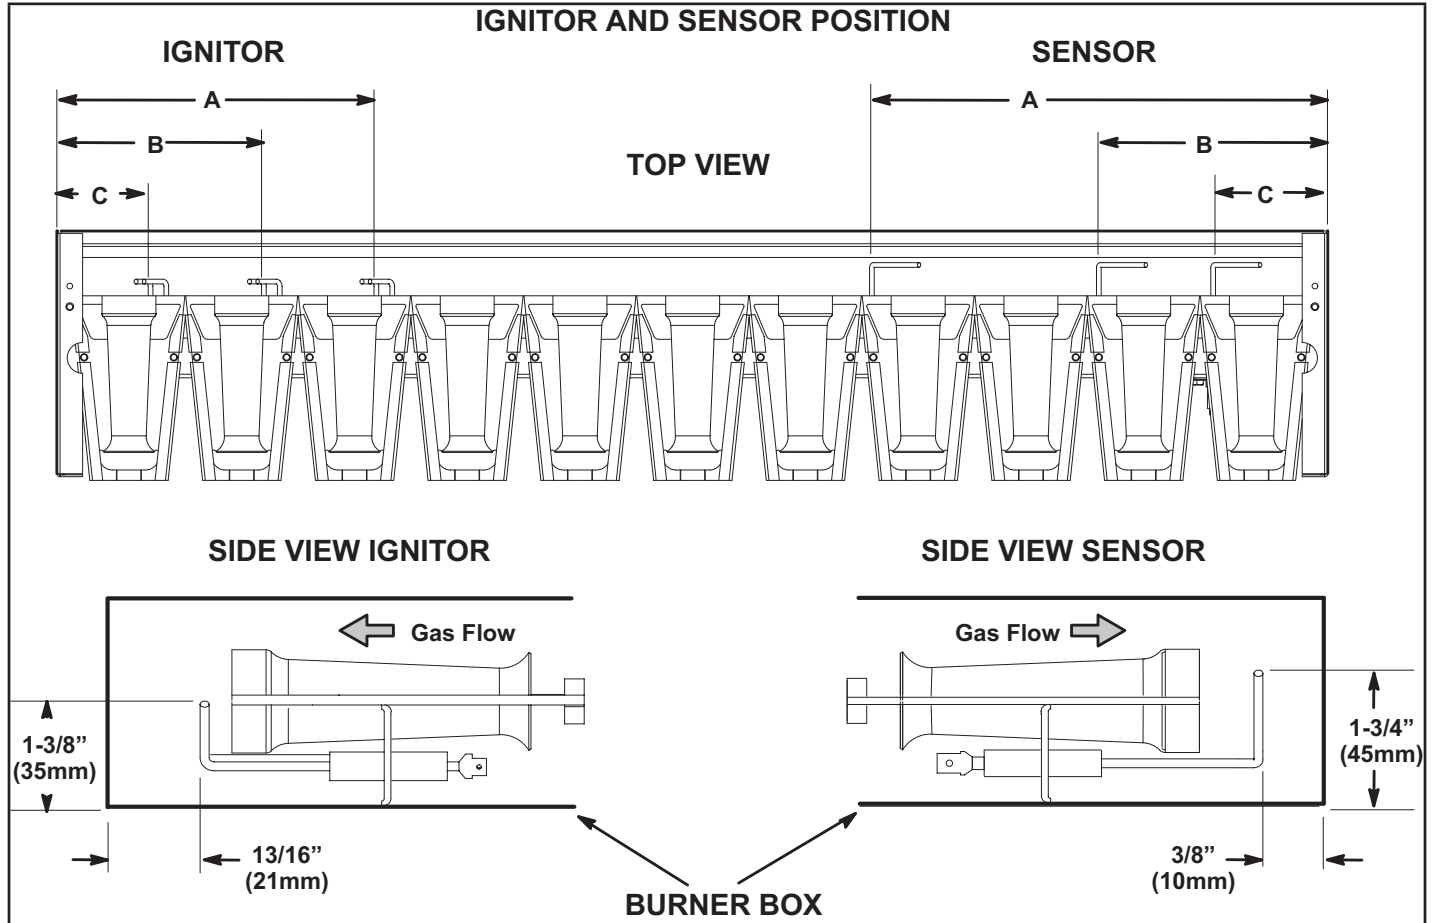

FIGURE 23
- 5 - Check the alignment of the ignitor and the sensor as shown in FIGURE 23 and TABLE 15.